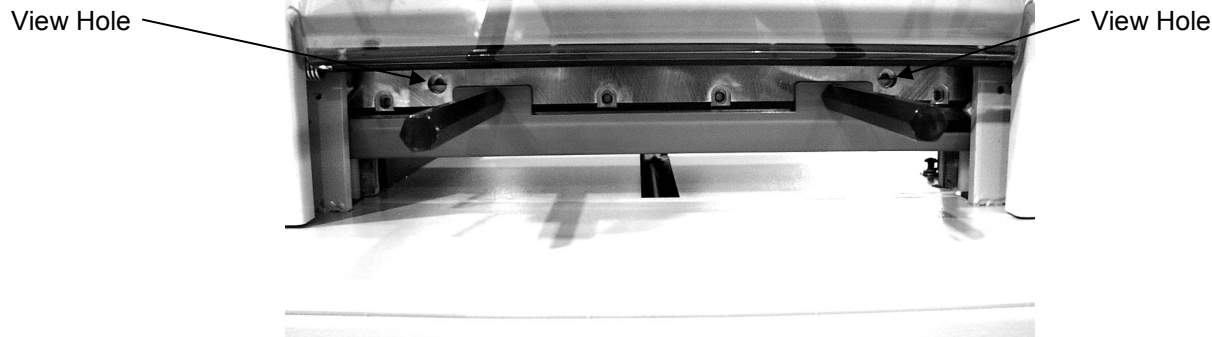

Figure 15
4. Insert the knife assembly into position under the knife bar, left end first. Raise the knife into the knife bar slot as high as it will go. Check both view holes to make sure knife is all the way up (Figure 15, page 18). Then tighten the lifters.